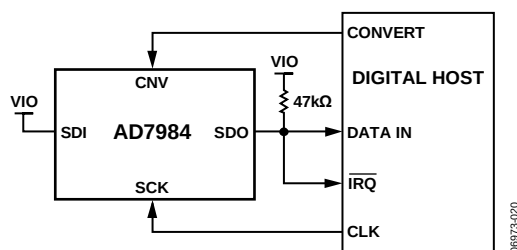
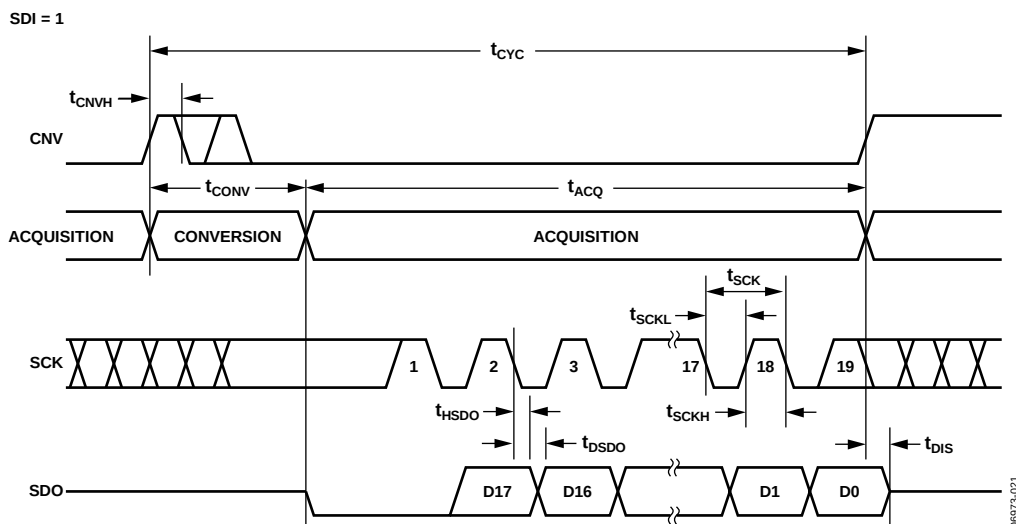
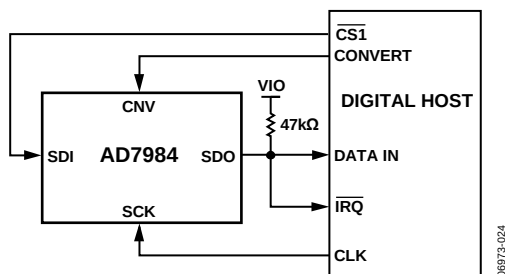
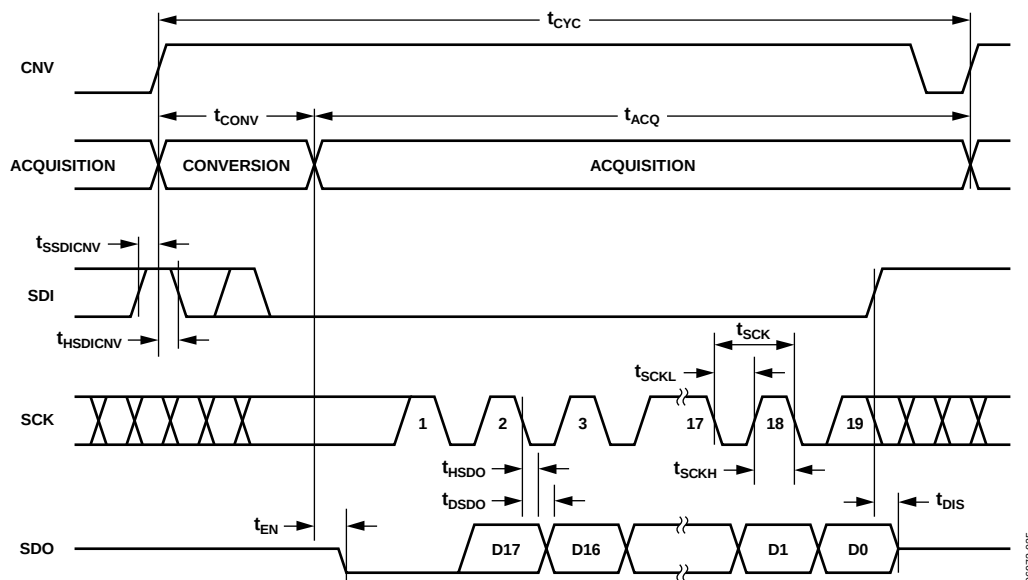

Figure 30. $\overline{\text{CS}}$ Mode, 3-Wire with Busy Indicator Connection Diagram (SDI High)
Figure 31. $\overline{\text{CS}}$ Mode, 3-Wire with Busy Indicator Serial Interface Timing (SDI High)
Figure 34. $\overline{\text{CS}}$ Mode, 4-Wire with Busy Indicator Connection Diagram
Figure 35. $\overline{\text{CS}}$ Mode, 4-Wire with Busy Indicator Serial Interface Timing
- In $\overline{CS}$ mode if CNV or SDI is low when the ADC conversion ends (see Figure 31 and Figure 35).
The connection diagram is shown in Figure 30, and the corresponding timing is given in Figure 31.
The connection diagram is shown in Figure 34, and the corresponding timing is given in Figure 35.